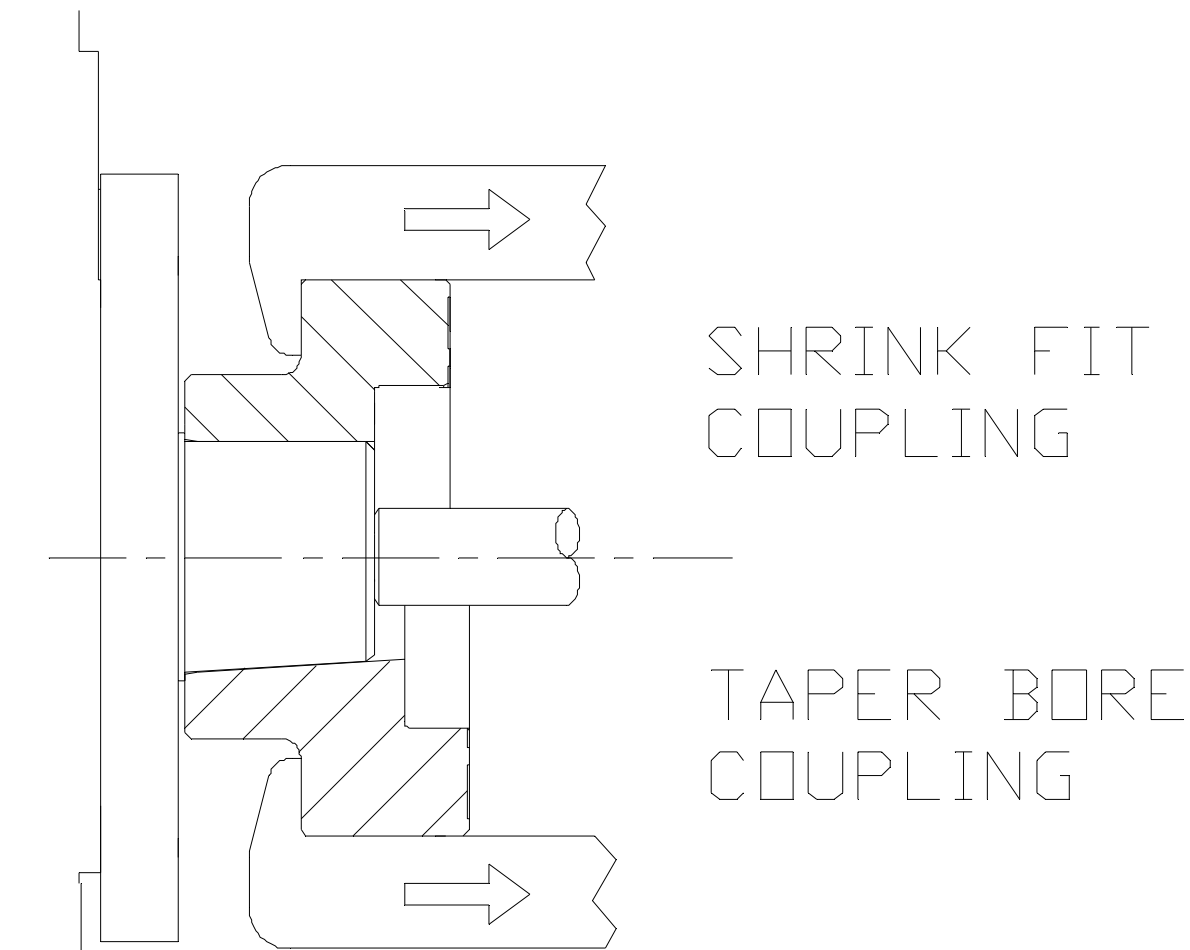

Figure 38. Simple Disassembly Device
2. Use an appropriate puller to pull the coupling from the output shaft (Figure 38). Apply force against the end of the exposed output shaft while pulling on the coupling. Do not apply a blunt force to the coupling or shaft.
2. Use an appropriate puller to pull the coupling from the output shaft (Figure 38). Apply force against the end of the exposed output shaft while pulling on the coupling. If necessary, a gentle tap on the side of the coupling with a hammer will help loosen the self-locking taper from the shaft.